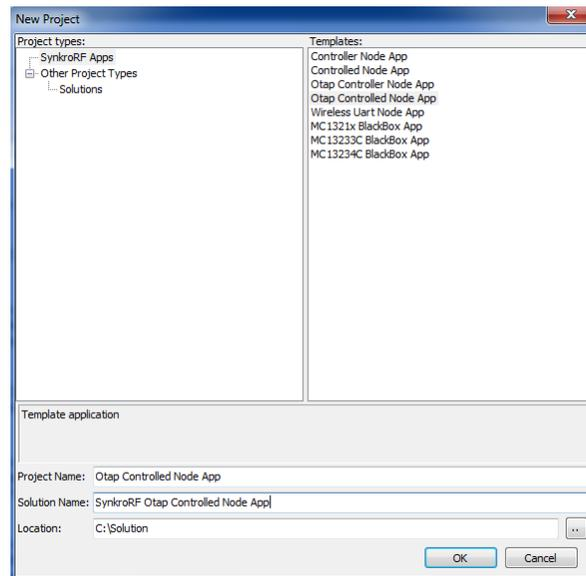

Figure 5-3. OTAP Controlled Node application template
5. Add a second project to the solution (see Section 2.1.3, “Creating Additional Devices”). Select the SynkroRF Apps from the left side of the window, and OTAP Controlled app template from the right side of the window, as shown in Figure 5-3.